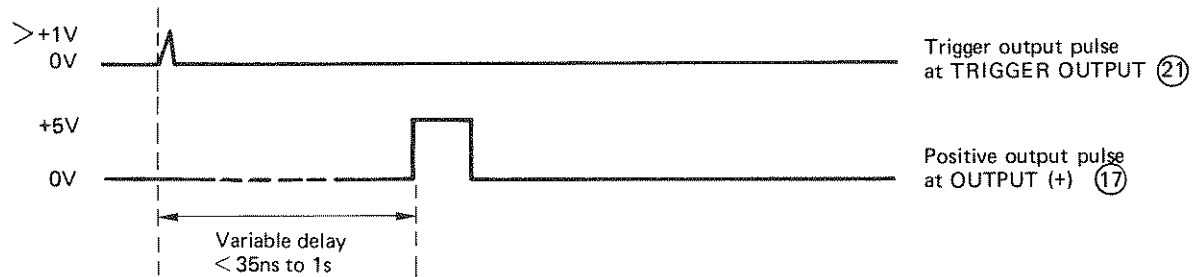

Figure 3-10. Output pulses in normal manual trigger mode
3-26 The output pulses should appear at the TRIGGER OUTPUT (21) and OUTPUT (+) (17) connectors as shown in Figure 3-10.